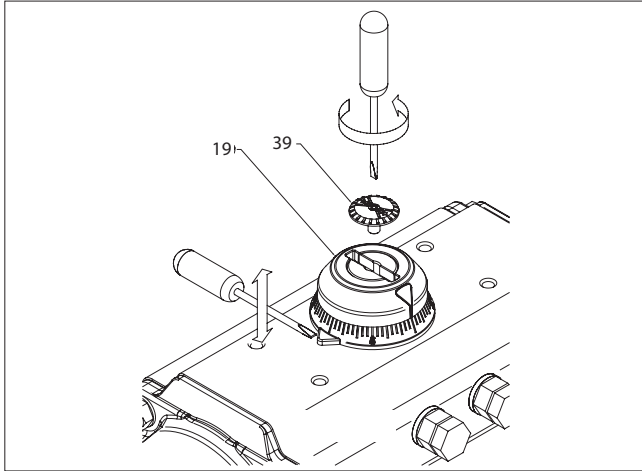

Figure 3.
1. Removal of Position Indicator (19,20), (Figure 3):